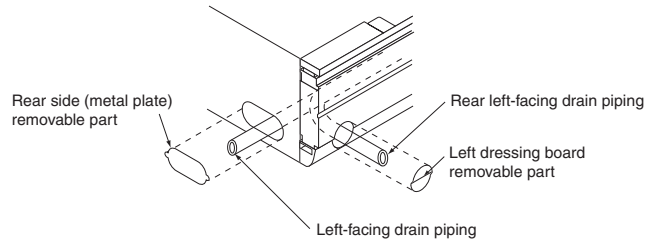

Fig. 20
(1) Carry out the drain piping.
- The drain pipe outlet direction can be chosen from the right rear, right, left rear, and left. Refer to “REFRIGERANT PIPING WORK” for right rear and right direction, and refer to Fig. 20 for left rear and left direction.